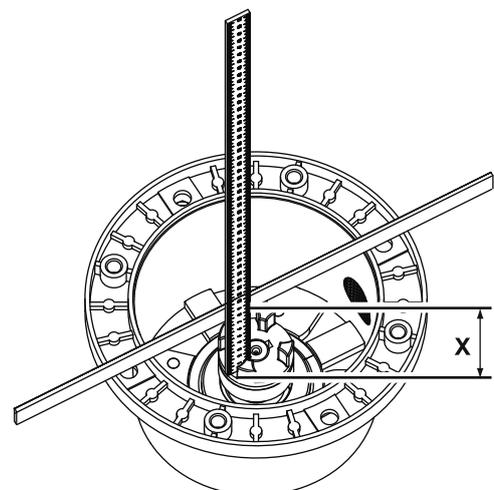

Fig. 5
3. Measure and write down the distance X between the face of the coupling and the connecting surface of the adapter housing, see Fig. 5.